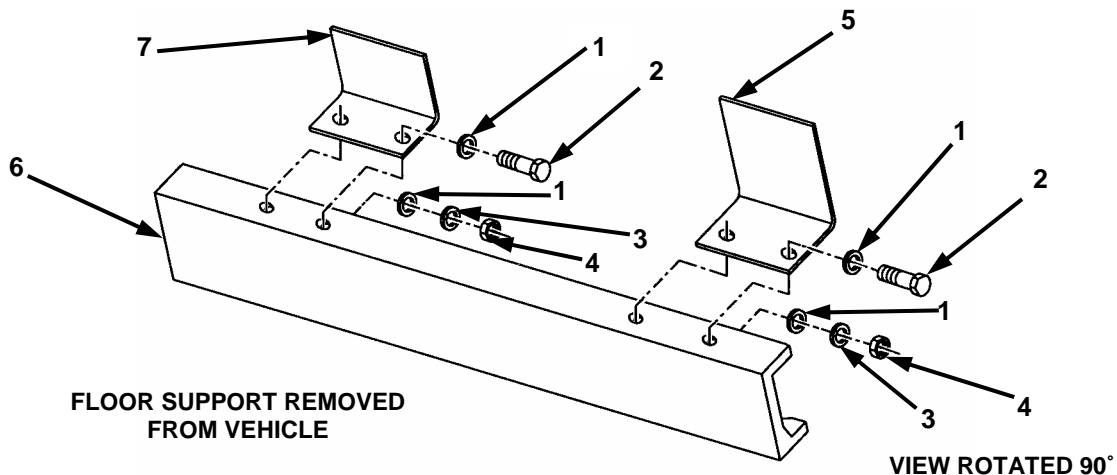

Figure 2-16. Floor Support Brackets.
7. Attach bracket 12491614 (Figure 2-16, 7) using four flat washers MS27183-14 (1), two screws B1821BH038C075N (2), lock washers MS35338-46 (3), and nuts MS35649-2384 (4) to front holes on floor support (6).
8. Attach bracket 12491620 (Figure 2-16, 5) with four flat washers MS27183-14 (1), two screws B1821BH038C075N (2), lock washers MS35338-46 (3), and nuts MS35649-2384 (4) to rear holes on floor support (6).